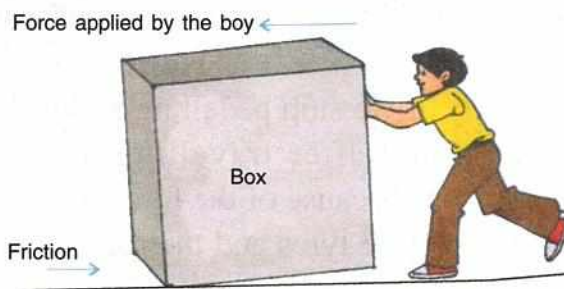

Fig. 3.20 Friction opposes motion
The force which slows down the motion of a moving body in contact with the surface of another body, is called the frictional force or the force of friction. This force always opposes the motion. Fig. 3.20 shows that while pushing a heavy box, the force of friction opposes the motion and makes it difficult for us to push it.
1. Friction opposes motion : We have read above that friction is a force which opposes motion. In daily life, we often have to move bodies from one place to another by pushing or pulling them. Suppose we want to push a box (Fig. 3.20). If we push the box with a little effort, we find that the box does not move. This means that there is some opposing force between the box and the ground which makes the box not to move. This opposing force is called the force of friction. Now if we push the box hard (*i.e.*, we apply more effort to push the box), the box starts moving. This happens because now the force applied has overcome the force of friction.